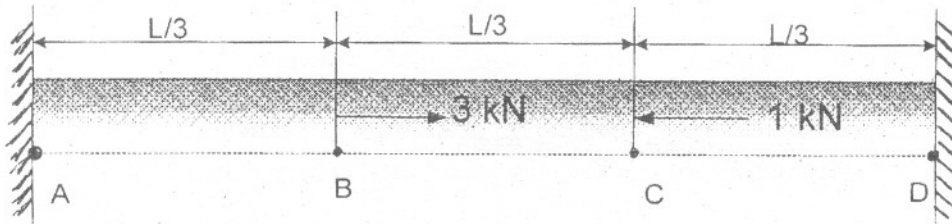

Fig. 1 (b)
- (b) The steel bar shown in Fig. 1 (b) is axially loaded at its third points and fixed at its ends. The cross-sectional area of bar is A . Calculate the axial force in each of the sections AB, BC and CD if the bar was free from initial stresses. [8]